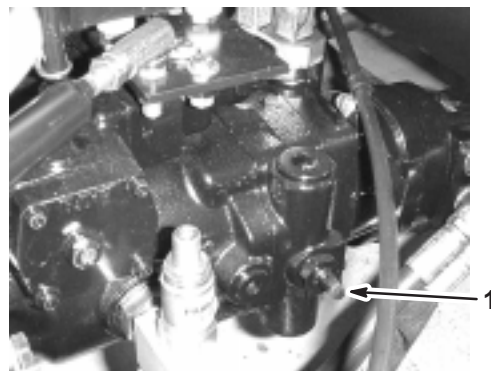

Figure 18
1. Rotate the tow valve (Fig. 18) 90 degrees in either direction to open it.